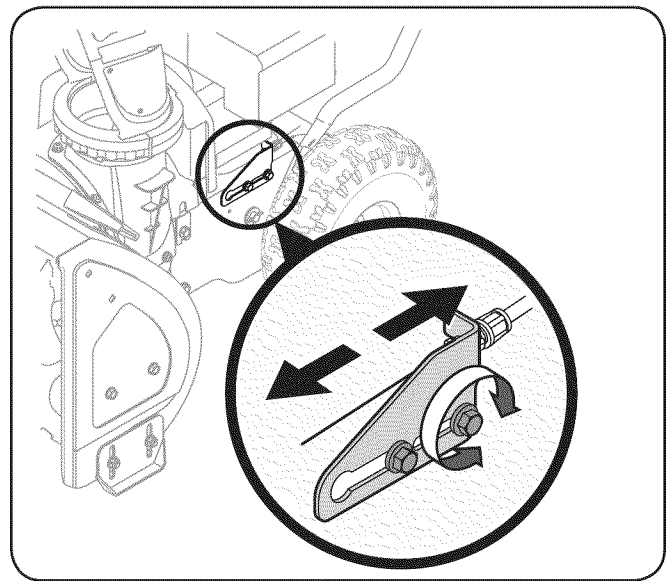

Figure 3-8
7. Loosen the rear hex screw on the cable adjustment bracket. See Fig. 3-8.